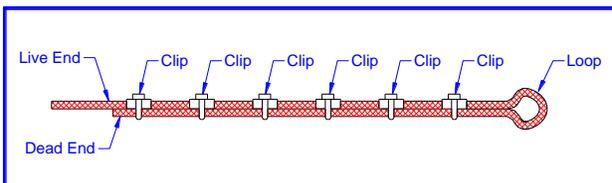

FIGURE 11-3
- Included in the Tie-Down Kit are (2) ½” diameter by 10’ long cables. If this is required:
- Use six (6) cable clamps and clamp the cable together.
- The saddle of the clamp must go over the live portion of the cable (AS SHOWN IN FIG 11-3).